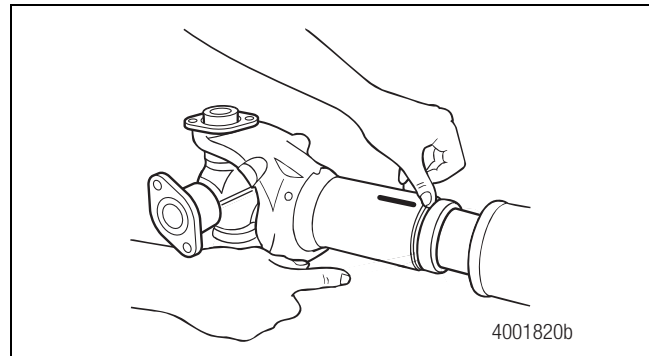

Figure 7.1
1. Use a screwdriver to pry the seal out of the groove in the slip yoke. Figure 7.1.